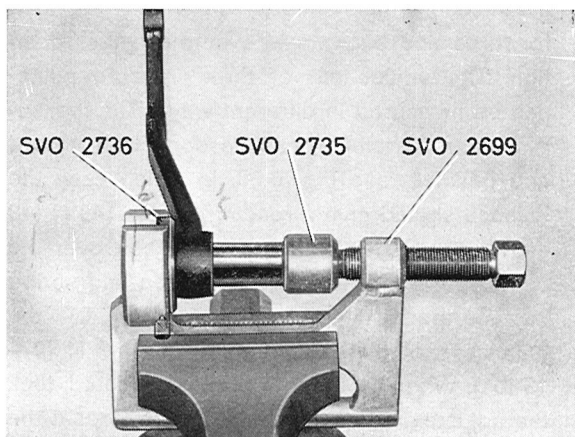

Fig. 6-66. Installation of rubber bushing, relay arm
5. Turn the relay arm and press in the new bushing with 2699 + 2736 and drift 2735 (Fig. 6-66).
6. Place the relay arm in position. Install the washer (7) and nut.